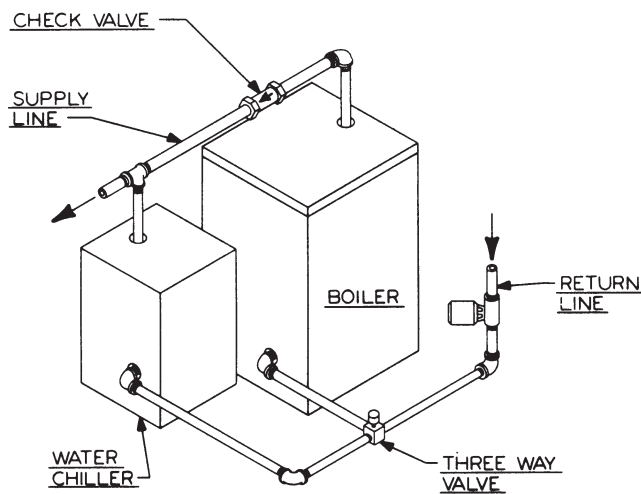

Figure 3.2: Parallel Hook-up with Water Chiller
- If this boiler and distribution system is used in conjunction with a refrigeration system, pipe the chilled medium in parallel with the boiler and install the proper valve to prevent the chilled medium from entering the boiler. A drawing illustrating this hook-up is provided in Figure 3.2.